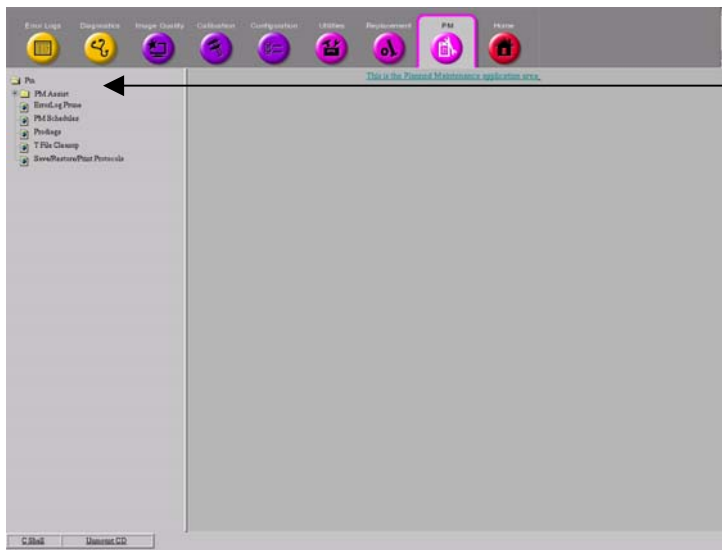
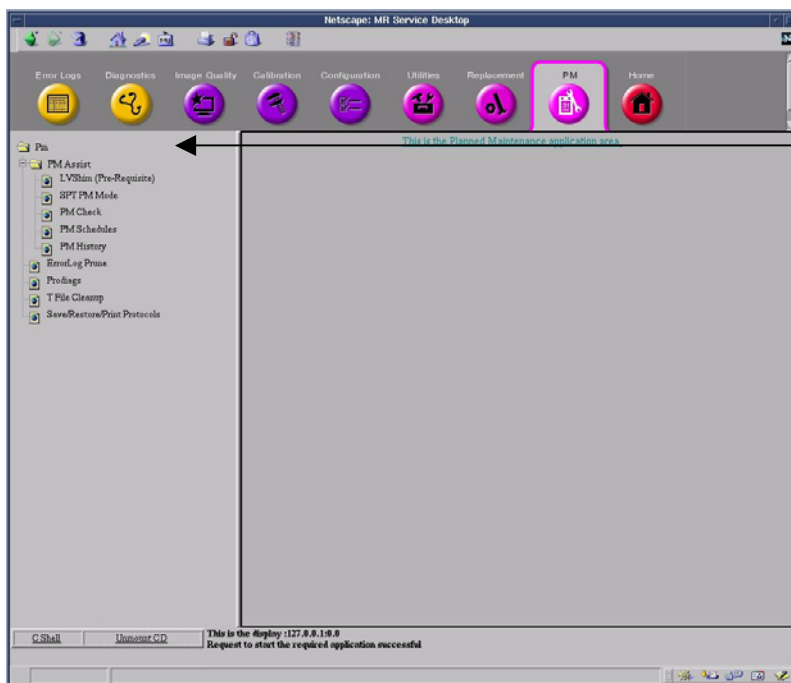

Figure 2
Figure 3
27. Click on the PM Assist folder in the left column of the PM main page **Figure2, 2a & Figure 3, 3a**. This will expand the folder and show the PM selections.